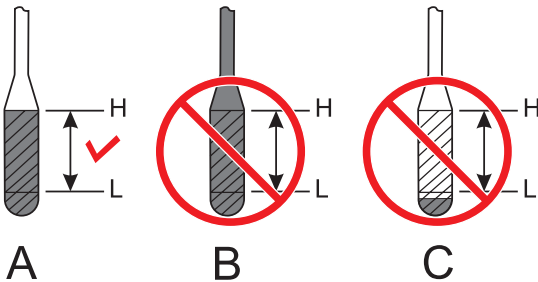

Figure 34. Engine Oil Dipstick
3. Reinsert the dipstick, then remove the dipstick from its holder. Check the oil level shown on the dipstick (Figure 34).